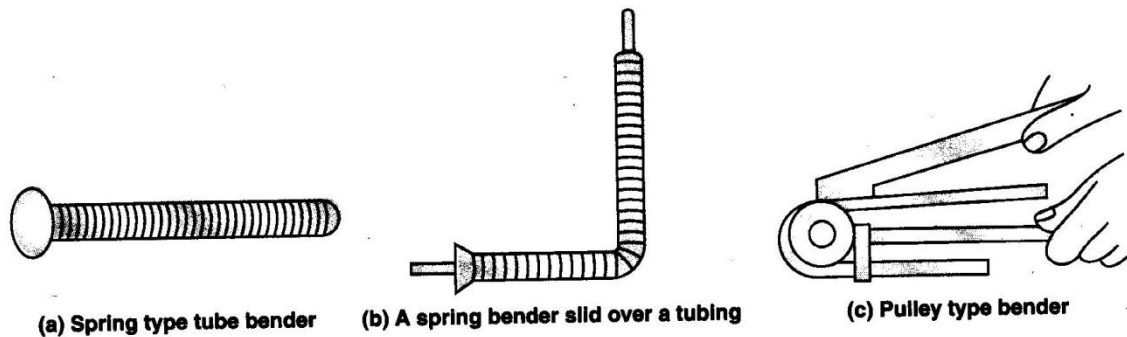

Fig. P-1.5.
5. Tube bender or spring bender : To bend the tube, two types of benders are available. They are spring type bender and pulley type bender. A spring bender can be used for making a bend in the tubing. While using a spring type bender, make sure that tubing should be bent somewhat farther than it is required and then bent upto the proper angle. Then the spring is loosened and can be easily removed as shown in Fig. P-1.5 (a) and (b).
A pulley type bender as shown in Fig. P-1.5 (c) is used to form bends upto 180° in one continuous operation. The pulley is calibrated to show the degree of bend attained.